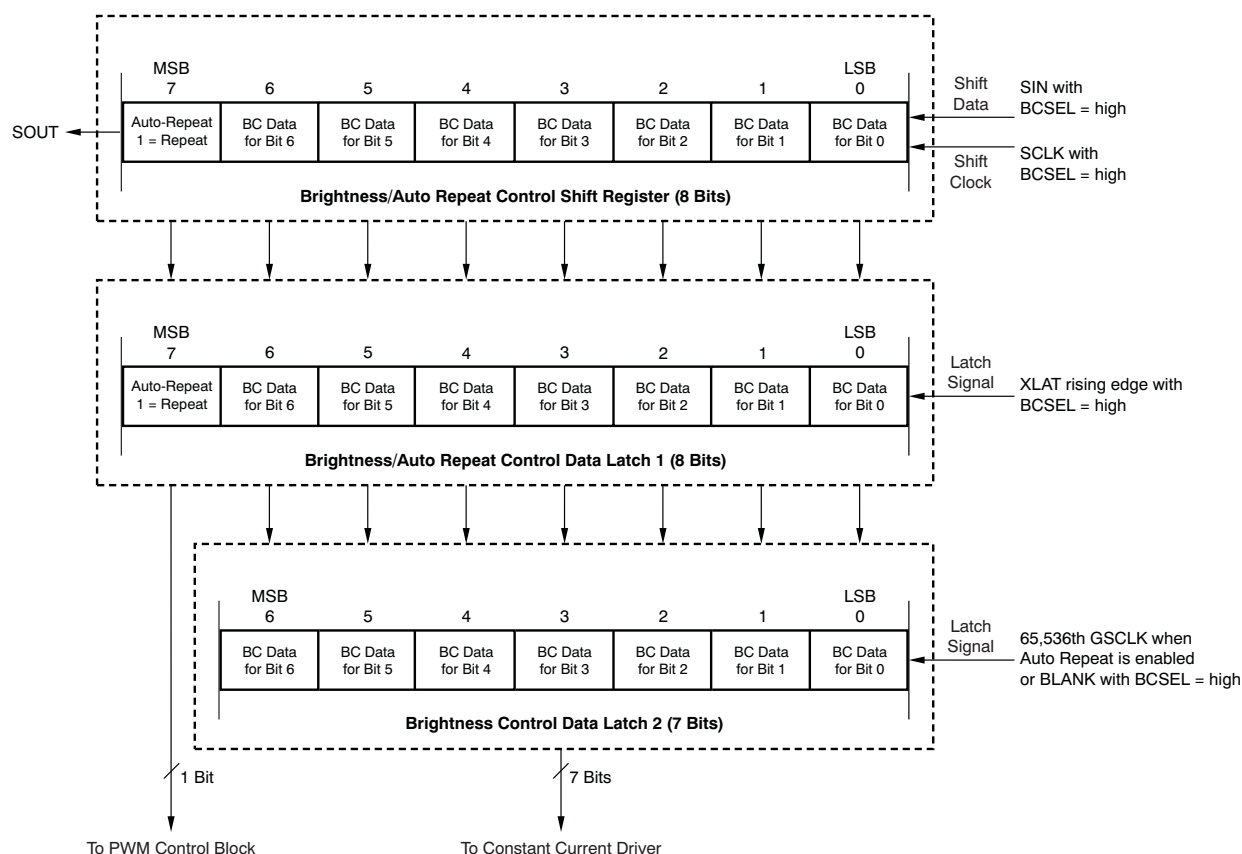

Figure 29. Brightness Control Shift Register and Latch Configuration
The Brightness Control (BC) data shift register and the first latch are each 8 bits long; the second latch is 7 bits long. The lower 7 bits in the latch are used to adjust the constant current value for all channels of the constant current driver. The MSB of the first latch is used for the auto repeat mode setting. Table 5 shows the ratio of setting the current value against the maximum current value for each BC data point. Figure 29 shows the shift register and latch configuration for BC data. Figure 12 shows the timing for writing data.